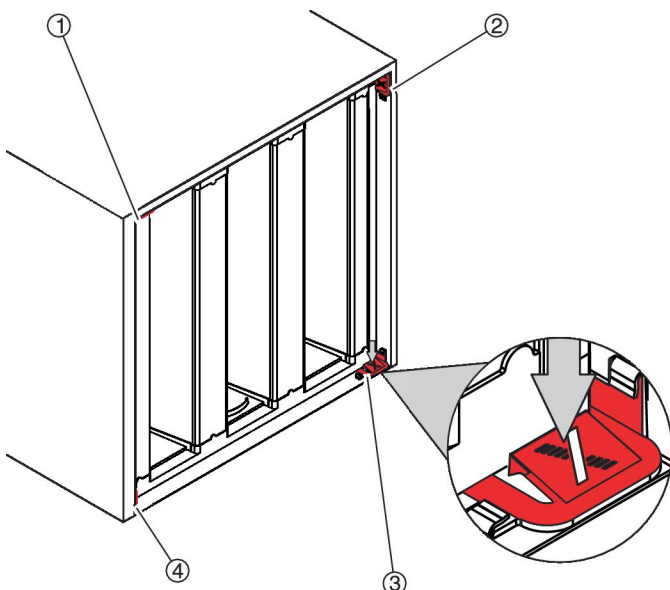

Fig. 20: Loosening the quick release fasteners
3. ▶ Press down the quick release fasteners (Fig. 20 /1 to 4).